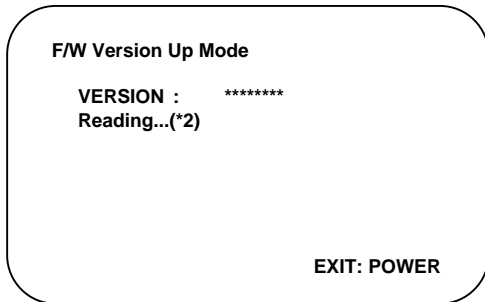

Fig. 3-2-3 Programming Mode Screen
4. The DVD player enters the F/W version up mode automatically. Fig. 3-2-3 appears on the screen and Fig. 3-2-4 appears on the VFD.
The appearance shown in (*2) of Fig. 3-2-3 is described as follows: